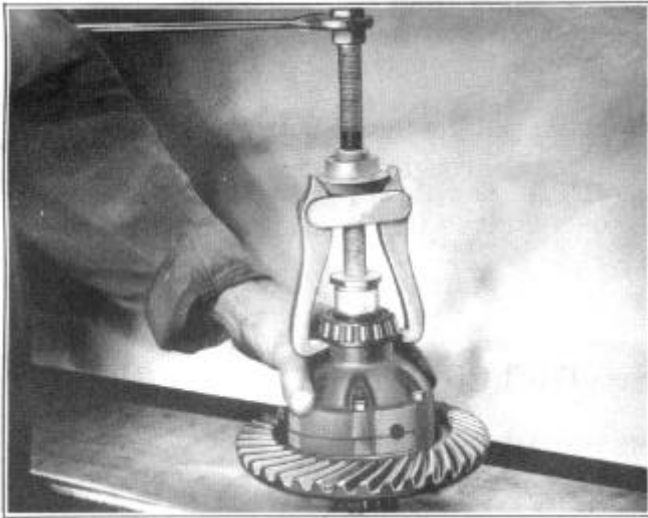

FIGURE 14
5. Remove differential bearing cones from case hubs using bearing puller tool, J-2158, See Figure 14.